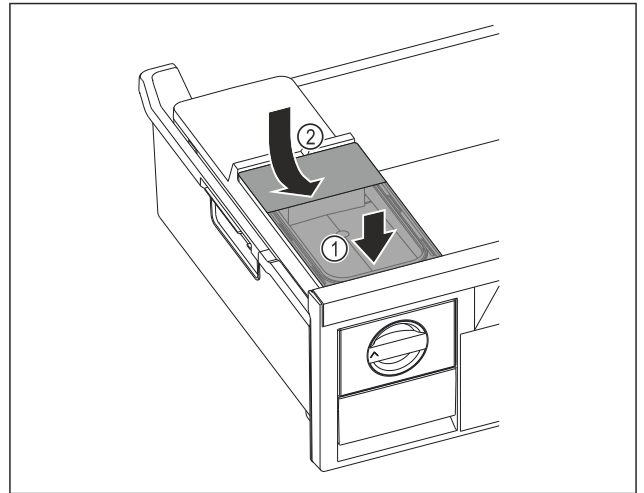

Fig. 181
- ▶ Position the water tank at the front. Fig. 181 (1)
- ▶ Lower the water tank at the rear. Fig. 181 (2)